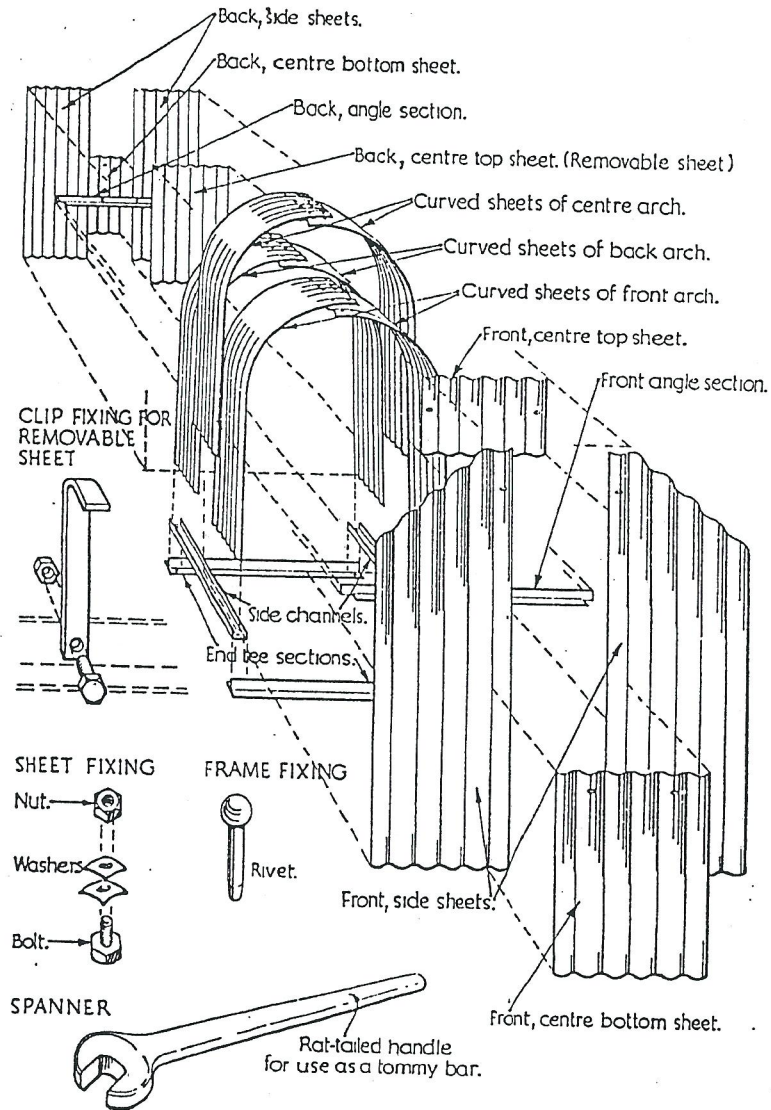

FIG. 3.—THE INDIVIDUAL PARTS.
- The parts will be found illustrated in Figure 3.
Some guide to the method of assembly is provided in Figure 3.